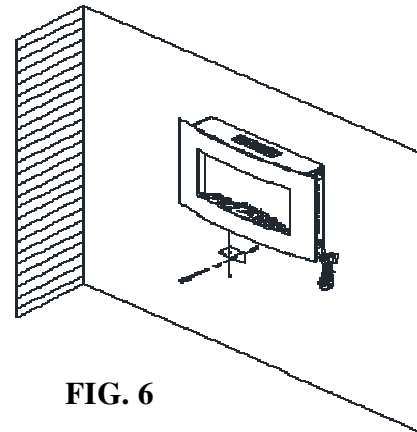

FIG. 6
7. Referring to figure 6, avoid fireplace to move, use screw fix fireplace to wall